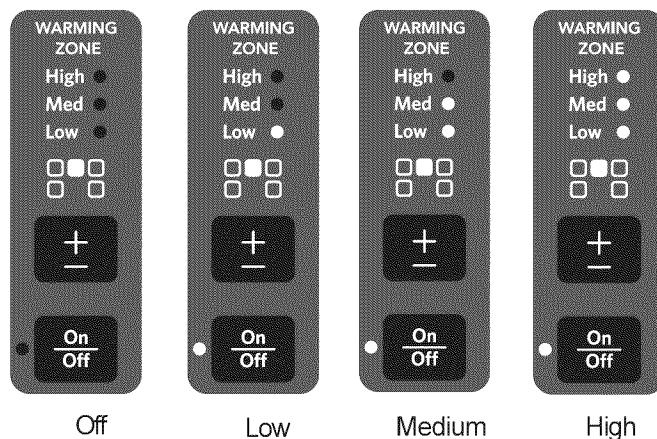

Fig. 2
2. Press the **+/-** keypad to scroll between High, Medium and Low settings. (See Fig. 2).